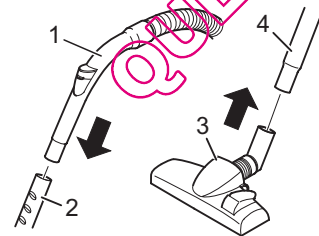

Fig. 3
2. Insert the handle (Fig. 3/1) into the upper end of the telescopic tube (Fig. 3/2).
3. Attach the floor nozzle (Fig. 3/3) to the bottom end of the telescopic tube (Fig. 3/4).